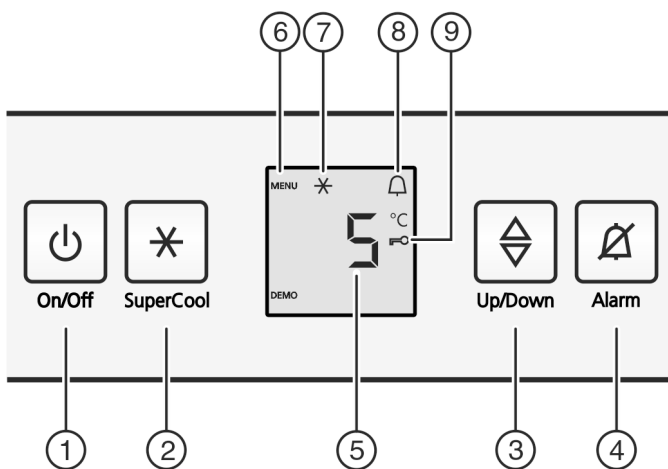

Fig. 2
- ▶ Press the On/Off button Fig. 2 (1).
- ▶ Press the SuperCool button Fig. 2 (2) for about 5 seconds.
- ▷ The Menu symbol is shown on the display, Fig. 2 (6).
- ▶ Confirm briefly with the SuperCool button Fig. 2 (2).
- ▷ The child lock symbol, Fig. 2 (9), lights up on the display.
- ▶ Briefly press the On/Off button Fig. 2 (1).
- ▶ Press alarm button *Fig. 2 (4)*.
- ▶ Call up temperature function: press the setting button *Fig. 2 (3)*.
- ▶ Change the temperature in 1 °C steps: Press the setting button *Fig. 2 (3)* until the required temperature is indicated in the temperature display.